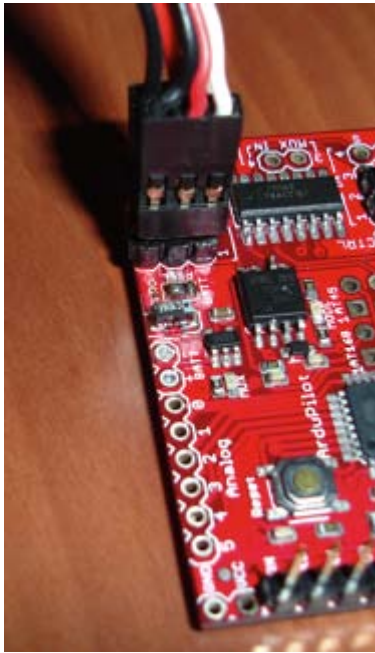

Figure 9-46. Connection of the ESC to the ArduPilot board
3. Connect the ESC and the servo cable to the ArduPilot board (Figure 9-46). The ground lead is usually black or brown and points to the edge of the PCB.